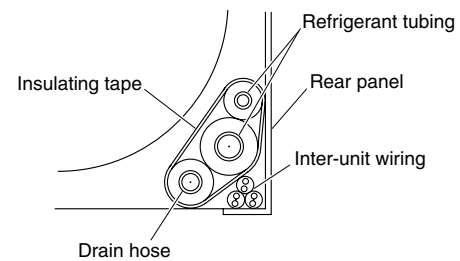

Fig. 3-151
- (2) After performing a leak test, wrap the refrigerant tubing and drain hose together with insulating tape, as shown in the figure at right. (Fig. 3-151) Then fit the tubing into the tubing storage space in the rear of the indoor unit and clamp in place.
- (3) Adjust the indoor unit so that it is securely installed onto the rear panel.